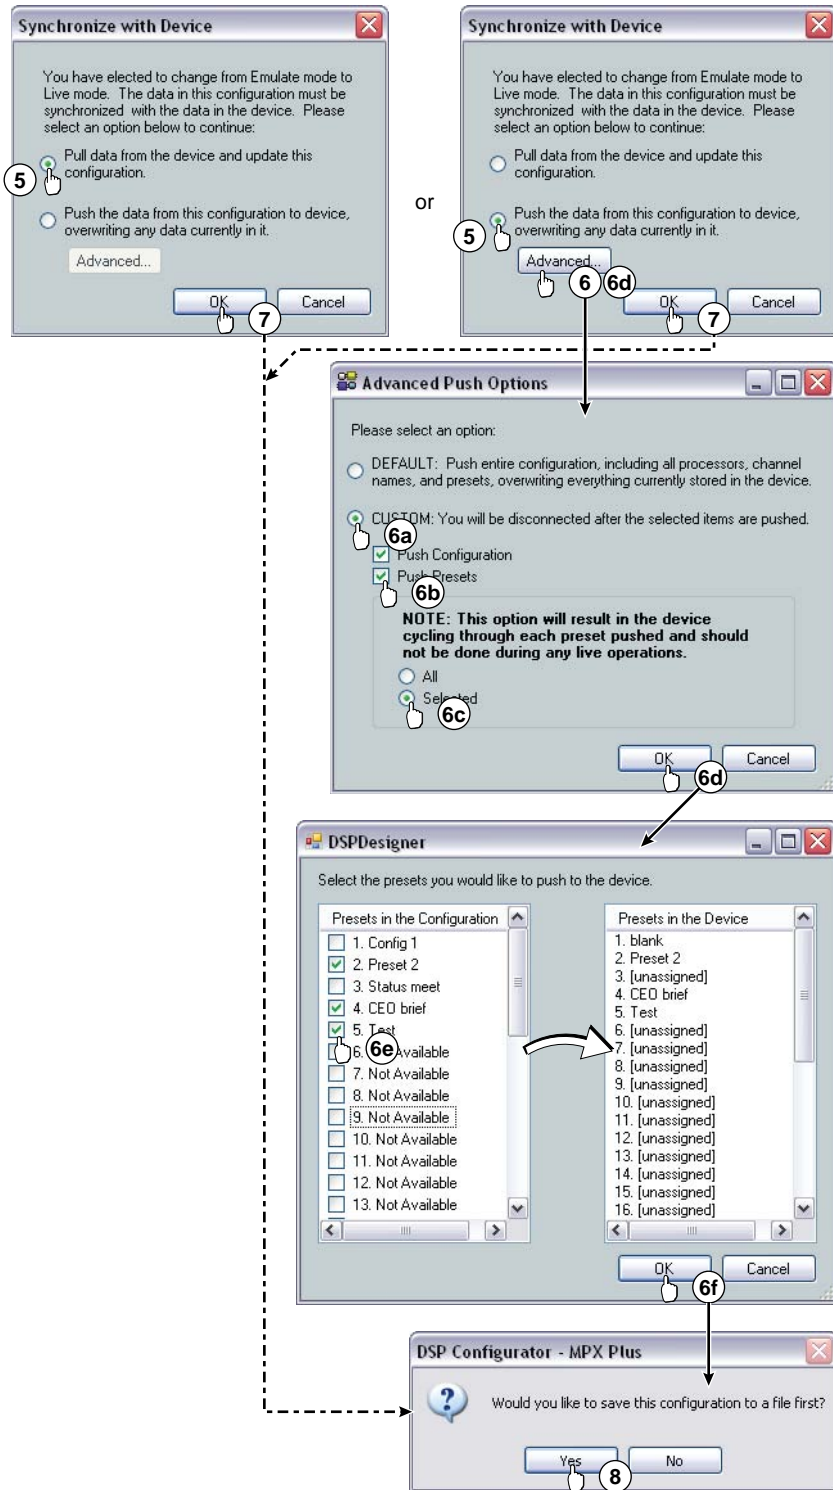

Figure 5-18 — Selecting Live mode, continued
The Synchronize with Device dialog box (figure 5-18, on page 5-25) appears. Proceed to step 5.
5. If necessary and as desired, click (figure 5-18) either the: